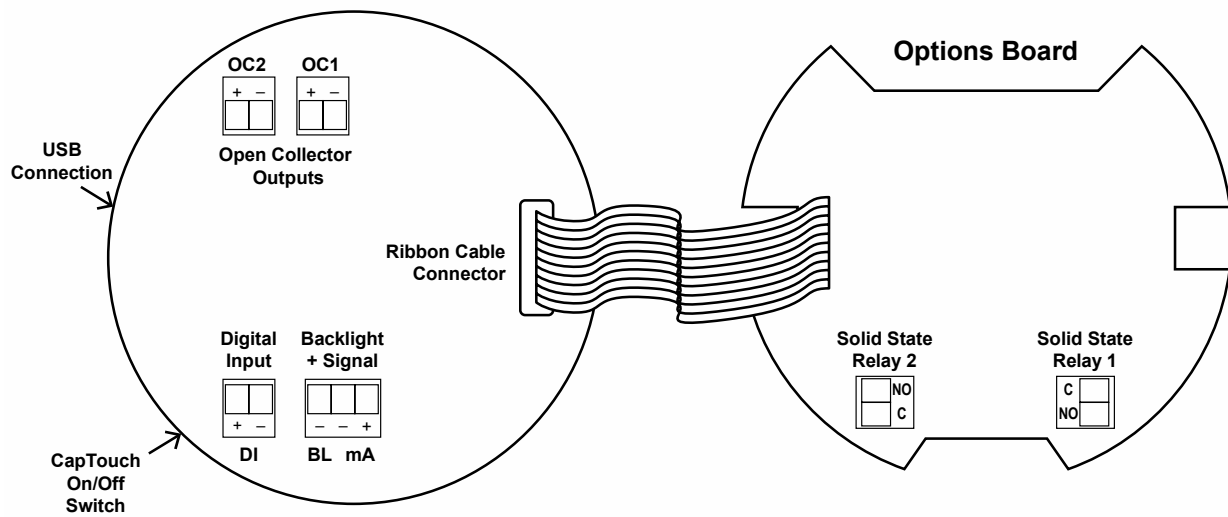

Figure 5. Connector Labeling for PD6908-GP-PL-L2N
Relay connections are made to two-terminal connectors, as shown on *Figure 5*, page 19. Each relay's C terminal is common only to the normally open (NO) contact of the corresponding relay.